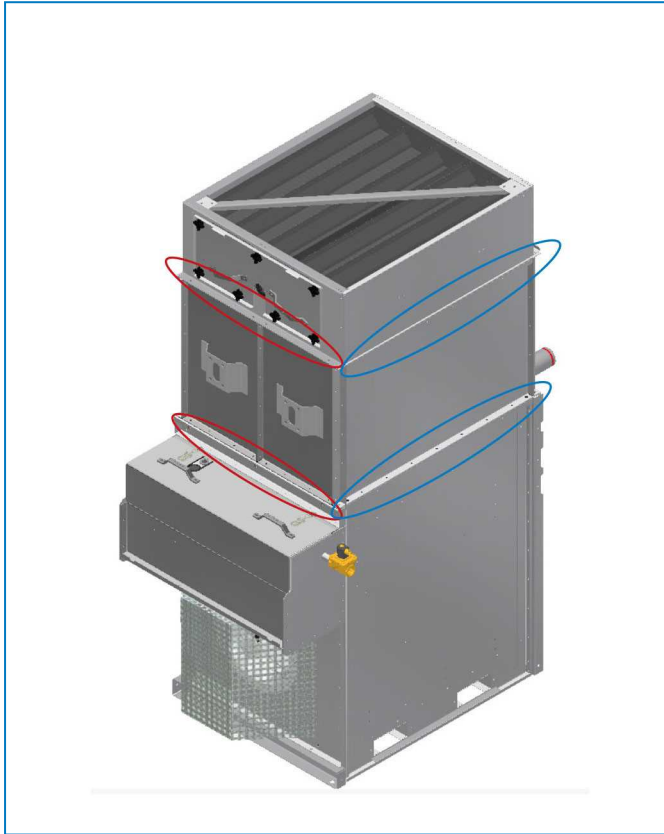

Fig. 7 Fastener type for the spray section assembly
2. Remove the access panel from the spray section, saving the hardware, then carefully remove the eliminators through the opening. Note each eliminator's orientation and location. The eliminators will be replaced after installing the spray's piping. See figure 7.
3. Apply sealer tape to top of the hCore™ Heat Transfer Technology section. Overlap the sealer tape 25 mm in the corners. The spray section can then be lifted and attached on all four sides to the lower section using factory-supplied fasteners, see figure 3. Note the fastener type varies on the location and the unit's material of construction. See figure 7 and table 3.